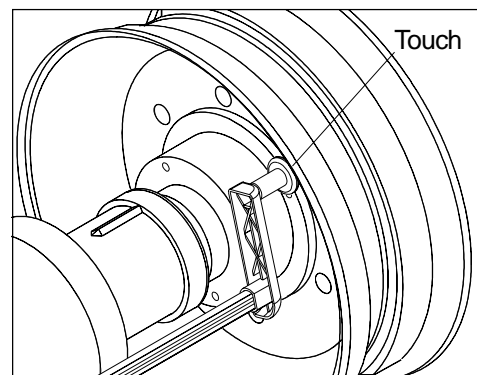

Figure 22
11. Touch the tip of SAPE arm to the upper inside edge of the rim and then press *Enter*. See *Figure 22*. The display will read live values, Press *Enter*. The display will then read "**Ang 2**", Press *Enter*.